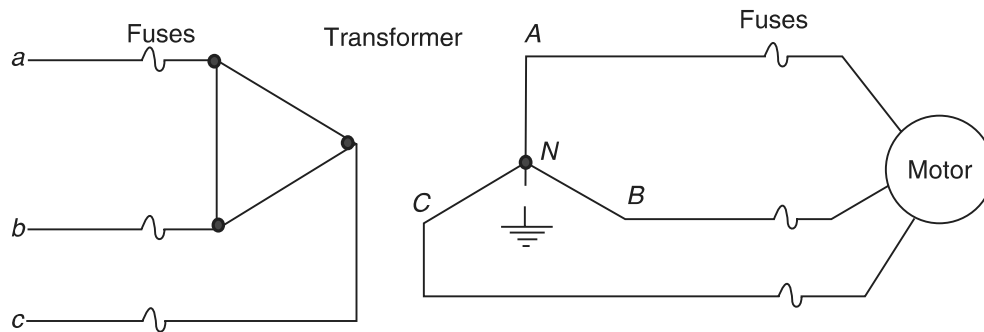

FIGURE P11.6
- 11.6** A fully loaded motor is connected to a supply source through a transformer as shown in Figure P11.6. The phase sequence is different on the two sides. Assume that the positive sequence current into the motor does not change after the fuse operations.